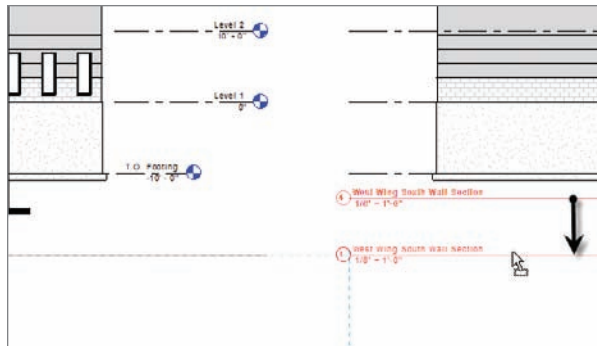

FIGURE 14.13 You can select the view title independently of the actual viewport.
4. Select the view title, as shown in Figure 14.13.
5. Move it down. As you move the view title, it will snap in alignment to the view title to the left, as shown in Figure 14.13.